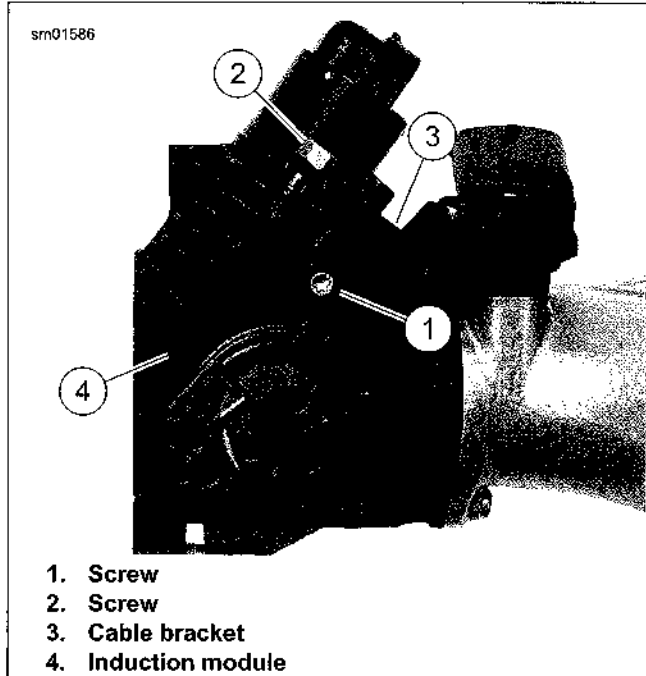

Figure 4-22. Removing/Installing Cable Bracket
2. See Figure 4-22. Remove screws (1, 2) and cable bracket (3) from induction module (4).
4. See Figure 4-22. Install cable bracket (3) onto induction module (4):
- c. Tighten both IAC mounting screws to **60 in-lbs** (6.8 Nm). Tighten side screw (1) to **60 in-lbs** (6.8 Nm).